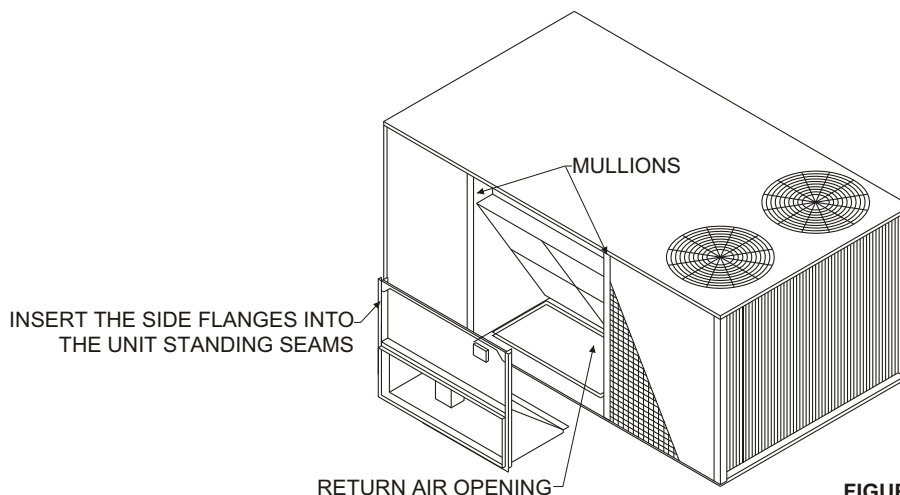

FIGURE 2
7. Route wiring to the right side of the economizer and slide into the unit. Position the mixed air sensor and control board in the filter section routing wiring along right side of the horizontal return air section. Insert economizer side flanges into the unit standing seams. Using existing screws from bottom of discarded panel to secure economizer bottom flange to unit. **See Figure 2.**